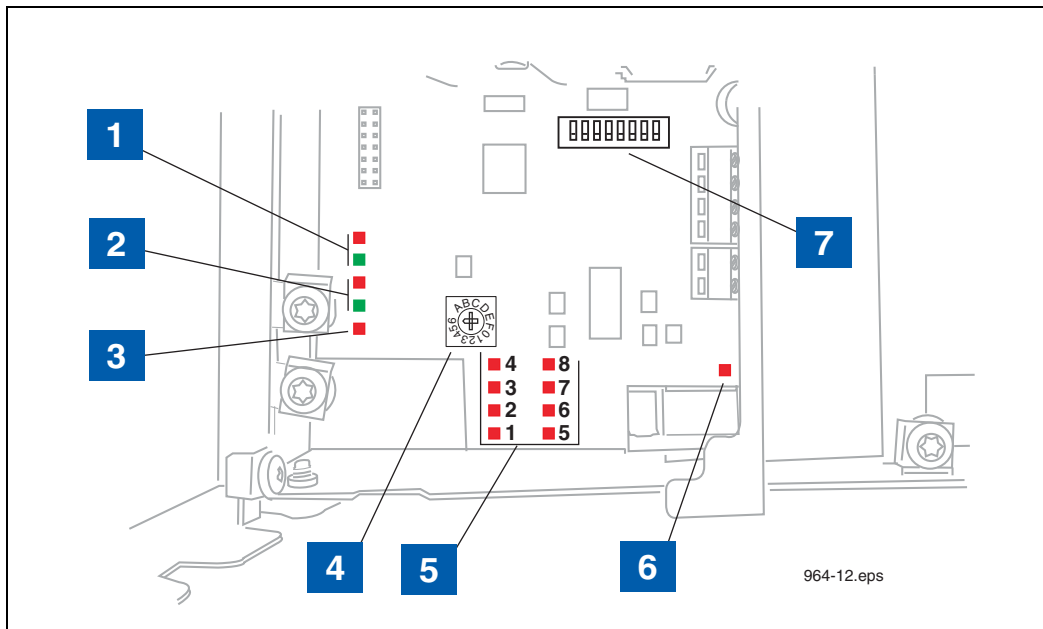

Figure 12. TLS RF Diagnostic LEDs And Switch Locations
- c. If it is not, check PWR LED (refer to item 3 in Figure 12), if not lit; check power wiring. If the wiring is correct, measure the voltage across the twisted pair power wires, it should read +15Vdc. If it is not, the TLS RF is bad.
- d. If the Red LED (refer to item 2 in Figure 12) is not flashing, confirm the TLS RF address is set to Master (refer to Appendix B, Figure B-1 on how to set the TLS RF Device Number). If it is, the TLS RF has failed.
- b. Go to the TLS RF, open its cover. One of the 8 Red received LEDs should be flashing (refer to item 5 in Figure 12). Observe which LED is lit and compare it against the Transmitter Device Number; they should match. For example, if the Transmitter ID is set to 1, the LED number 1 in the TLS RF should be flashing.
2. In this example, device output 1 is a CCVP transmitter - Observe polarity. Note: each time a transmission is received from this device, LED 1 (see item 5 in Figure 12) will flash.
3. In this example, device output 2 is a Flow Meter - Observe polarity. Note: each time a transmission is received from this device, LED 2 (see item 5 in Figure 12) will flash.
Figure 12 locates the diagnostic lights and setup switches in the TLS RF.
**LEGEND FOR NUMBERED BOXES IN Figure 12**